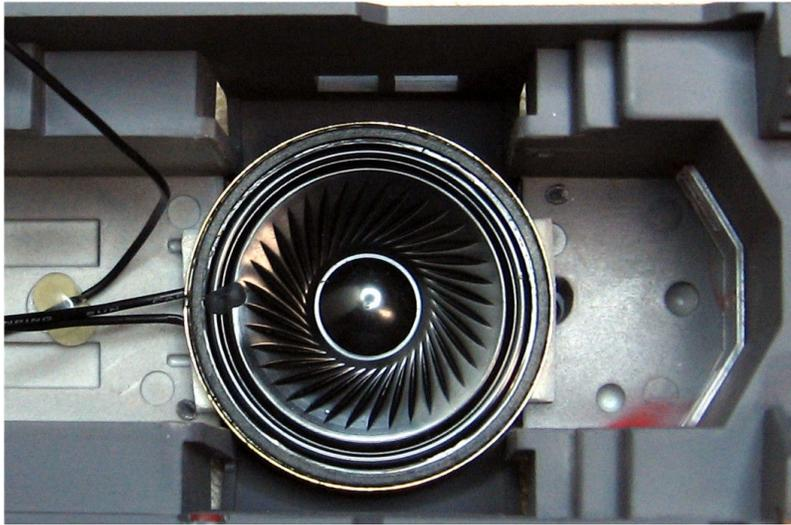

Figure 10 – Speaker mounted
2. Refer to Figure 10 and test fit the speaker with the double stick tape protection on. Note that the wires should be routed down the center of the long hood of the shell. Once comfortable with the placement, permanently mount the speaker.